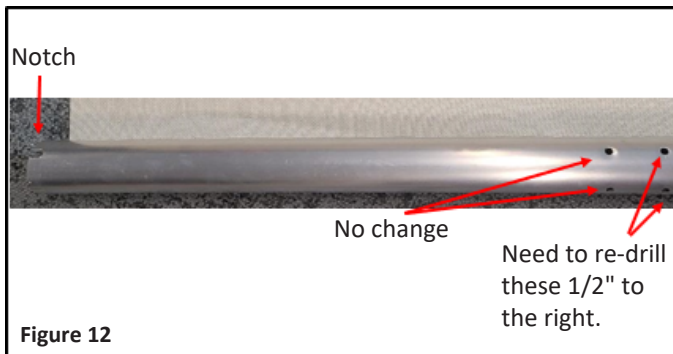

Figure 12
18. Orient the roller bar and fabric in front of you with the notched end on the left. See **Figure 12**.